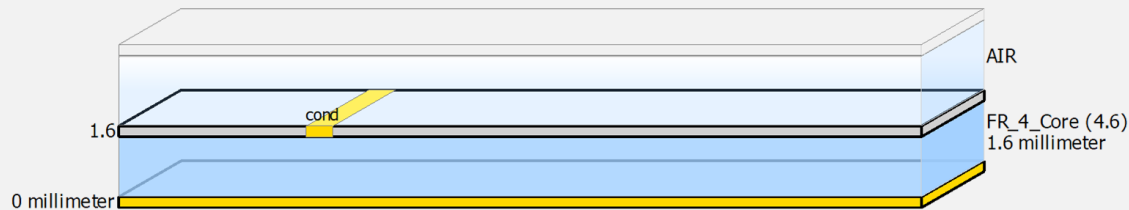

Figure 28. Substrate definition
- Go to the **EM Setup** window. In the Substrate section, click **New**. Create a new substrate with the 25 mil Alumina as the template. Define the substrate with the parameters (substrate height, ϵ_r , and TanD) from step 1. Define the material as Copper (select it from **Add from Database list**). The definition is shown in Figures 28, 29, and 30.